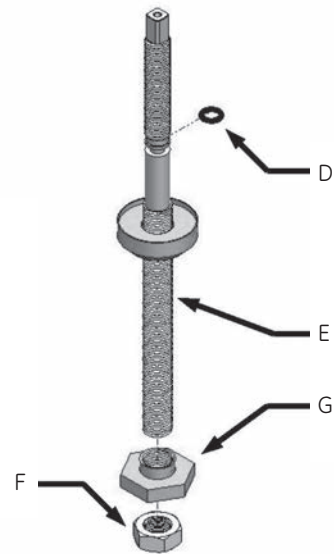
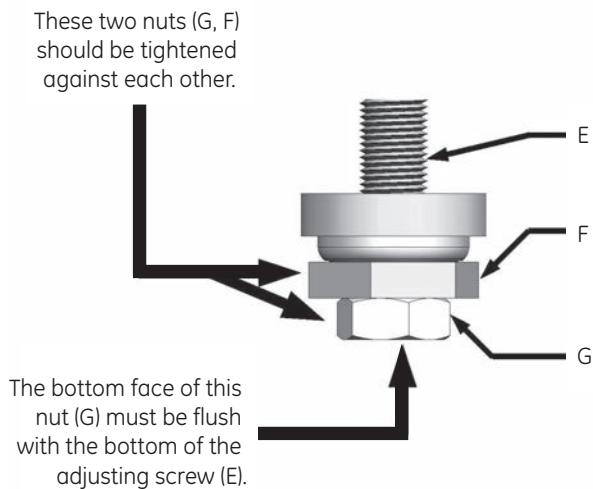

Figure 37 – Bearing Nut Assembly
Figure 38 – Tightening the Bearing Nut
Step 1: Slide a 108 O-ring (D) onto the adjusting screw (E) as shown in Figure 37.
Step 2: Slide the bearing case assembly onto the adjusting screw (E).
Step 3: Thread the aluminum bearing nut (G) onto the screw (E) from the bottom. Leave some room below the bearing nut (G).
Step 4: Thread the 1/2 inch - 20 inch SS left-hand jam nut (F) onto the screw (E). The jam nut (F) and bearing nut (G) should be tightened against each other as shown in Figure 38.